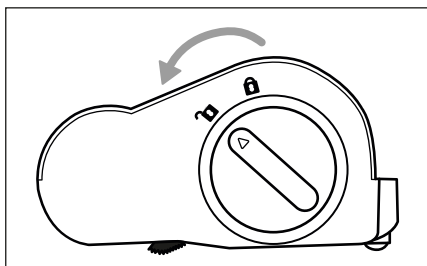

Fig. 22
- Clean the rotary brush ⑱ regularly to ensure proper operation of the appliance and avoid malfunctions.
- 1) Remove the floor brush ⑳ from the suction pipe ㉓ or from the appliance (see section **10.3. Dismantling the appliance**).
- 2) Unlock the rotary brush ⑱ by turning the rotary brush release ⑲ towards the symbol ㊤ (open) (see Fig. 22).